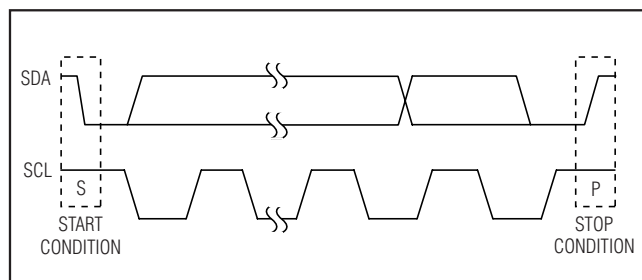

Figure 11. Start and Stop Conditions
Both SCL and SDA remain high when the interface is not busy. The master signals the beginning of a transmission with a START (S) condition by transitioning SDA from high to low while SCL is high. When the master has finished communicating with the slave, the master issues a STOP (P) condition by transitioning SDA from low to high while SCL is high. The bus is then free for another transmission (Figure 11).